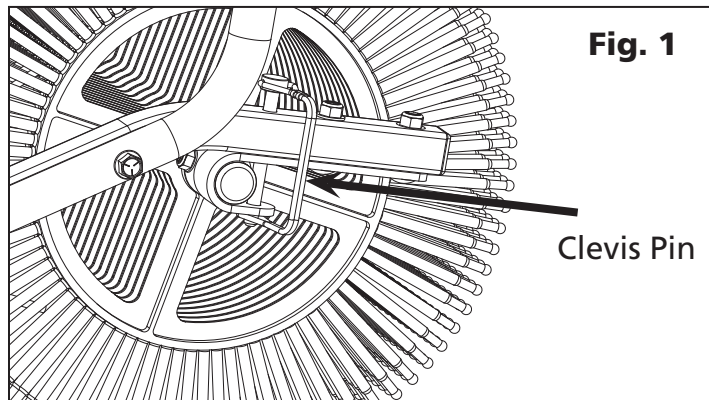

Fig. 1
1. (Fig. 1) Start by assembling the three pieces of the handlebar using the 5/16-18 x 1½ inch hex bolts and nylon lock nuts.
1. (Fig. 1) Unlock and remove the clevis pins from both sides of the frame that hold the axle of the wheel stack in place. Now, slide the entire wheel stack out of the J-hooks, and off the frame.
1. (Fig. 1) Attach the Drawbar Weldment (A) to the Main Assembly (B) using the two included 5/16-18 x 2¼ inch hex bolts.